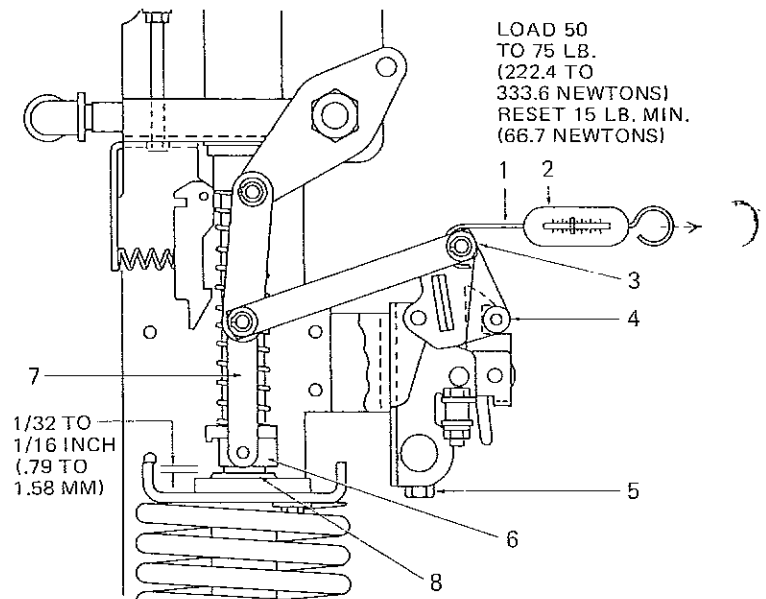

Figure 11
5. If the trip latch does not function properly, measure the latch load and reset values and adjust as necessary in accordance with the Adjustments section (Figure 11).
NOTE: Normally, the opening buffer will not require adjustment. However, to insure that the drive linkage can function properly, the drive block must clear the belleville washer as shown in Figure 11. Refer to opening buffer in the Adjustments section if drive linkage does not function properly.
3. The measurement must be made from the rear of the mechanism compartment. Measure from the top of the belleville washer to the drive block (Figure 11).